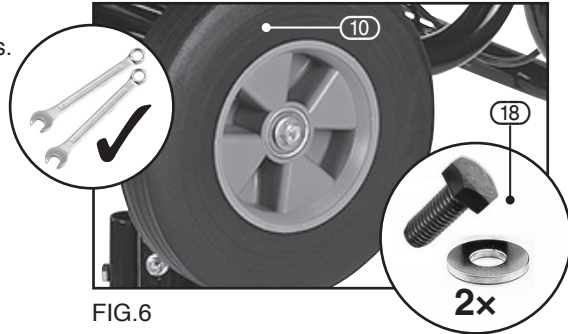

FIG.6
8.4 INSTALLING WHEELS – FIG.6
- Slide each of the wheels (10) over the axles.
- Using a spanner (*not supplied*) fasten each wheel in place with a washer and M8 × 15mm bolt (18).